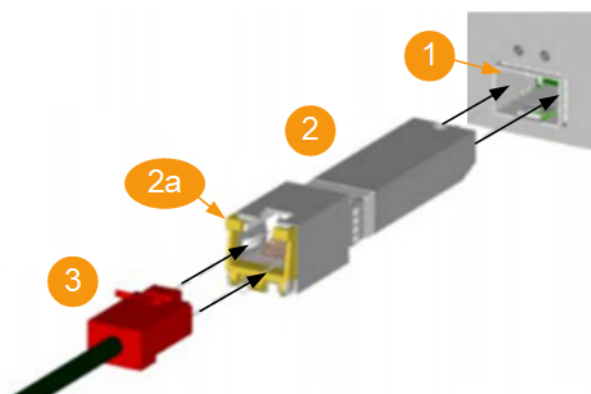

Figure 3-2: Connecting to the IP Data interface
2. Connect the SFP+ to RJ-45 adapter to the SFP+ socket of the "IP Data" connector first (Figure 3-2).